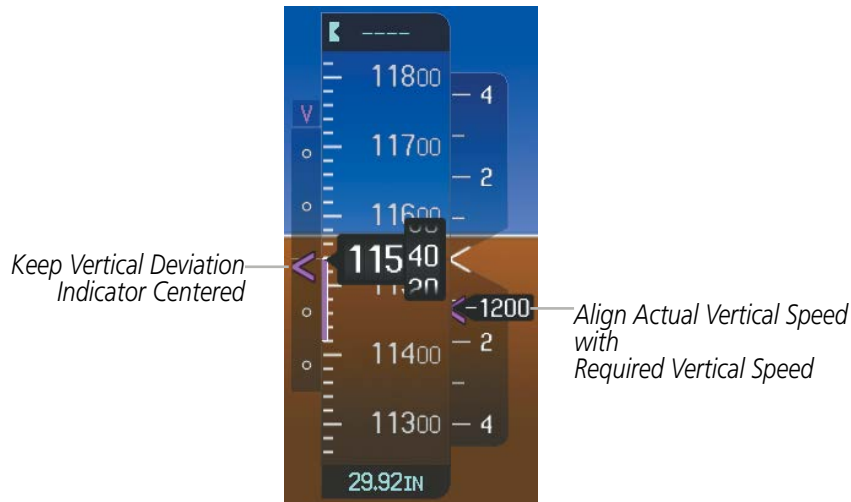

Figure 5-185 VDI & RVSI Showing Correctly Established Descent
- 16) Upon reaching TOD, a descent vertical speed is established by placing the VSI pointer in line with the RVSI as shown in Figure 5-185 .